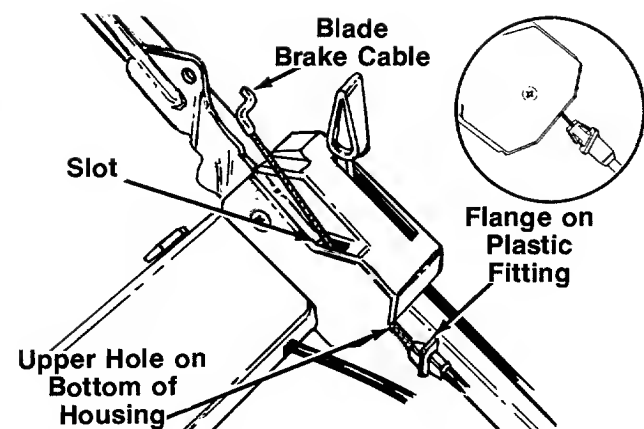

FIGURE 3.
1. The brake cable is attached to the engine, and has a "Z" fitting on the loose end. Route the brake cable below the lower handle. Place end of cable into the upper hole on the bottom of the control housing, and through the slot as shown. The angle of the plastic flange must be positioned downward as shown in figure 3. Be careful not to bend or kink the cable at any time.